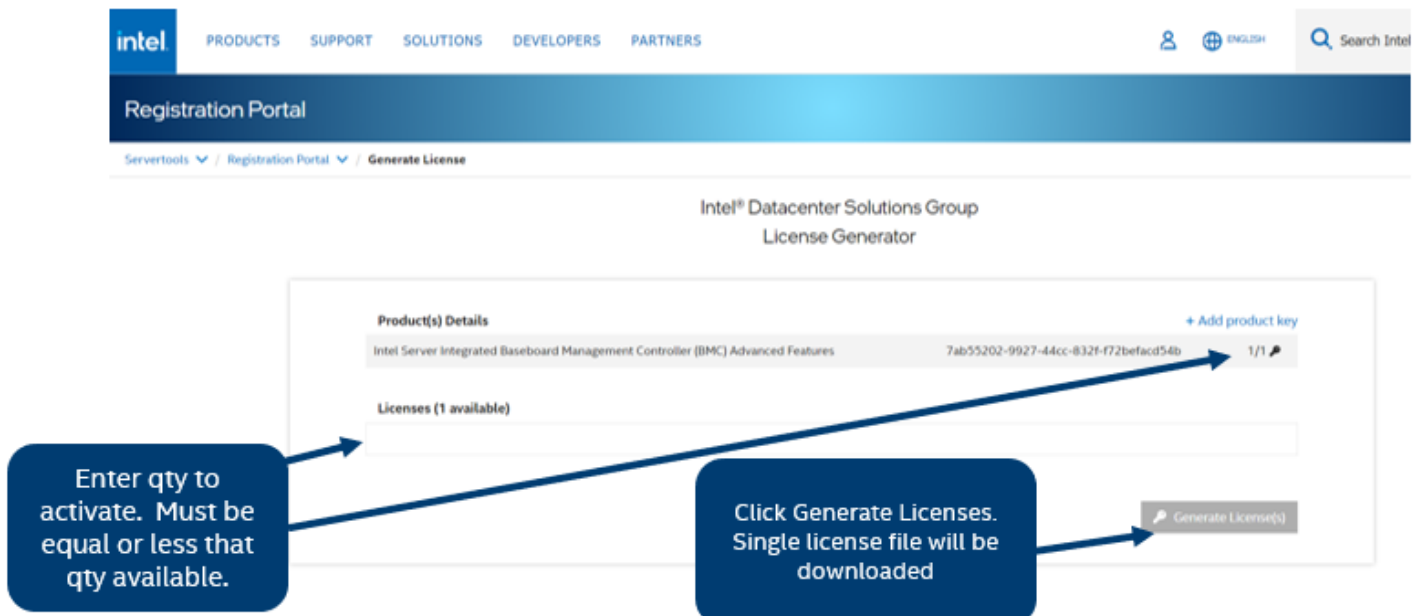

Figure 105. Generate License
- Enter the number of Advanced System Management (ASM) licenses needed. It must be equal or less than the quantity available displayed in the right corner of the screen. Click on the “Generate License(s)” bottom to generate and download the single license file. (see Figure 105)